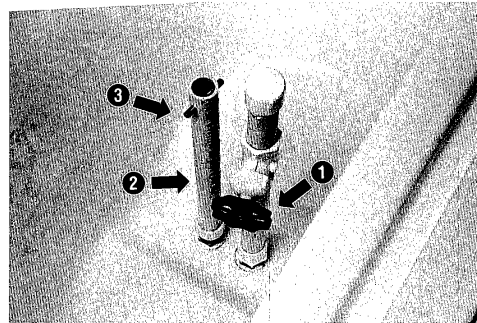

Figure 12
1. While the boat is running, remove the drain tube (2) from the bottom of the baitwell. To remove the drain tube, turn the rod (3) counterclockwise. See figure 12.